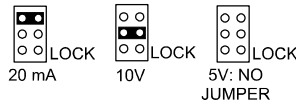

Figure 17. JP1 Input Signal Selection Array.
1. Make sure the jumper on JP1, is set for the desired input (see Figure 17, page33).